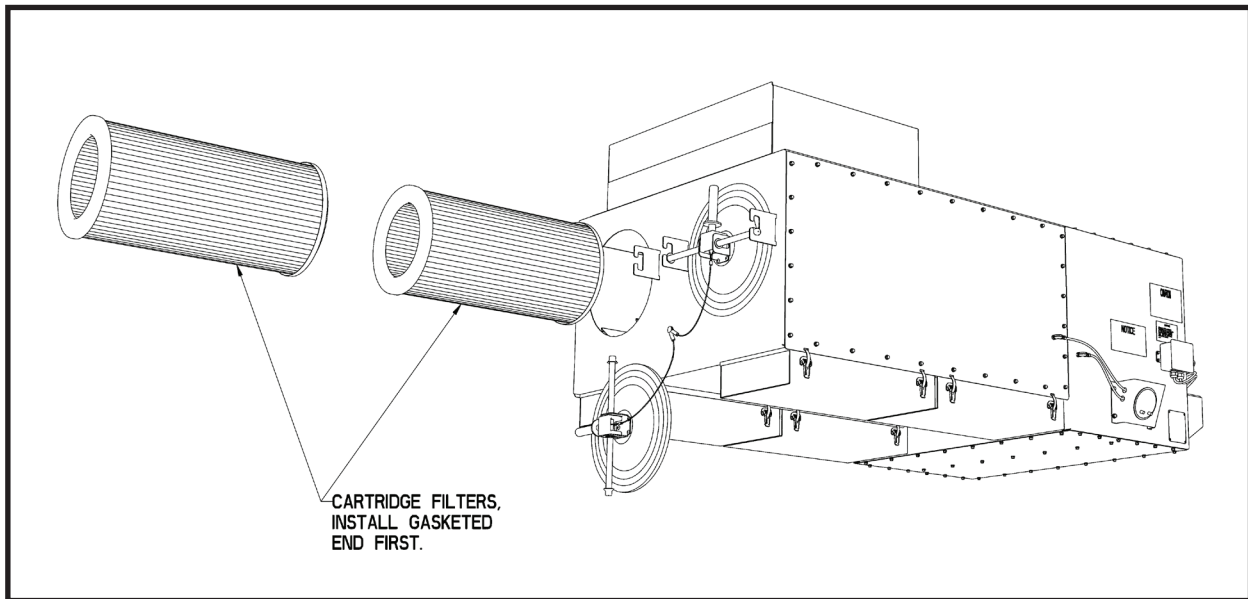

Figure 6. Filter Installation
- 5) Install two (2) new Protura® filters on the filter supports, gasket end first. Clean door gaskets and reinstall the door assembly onto the unit (refer to Figure 6 on page 8).